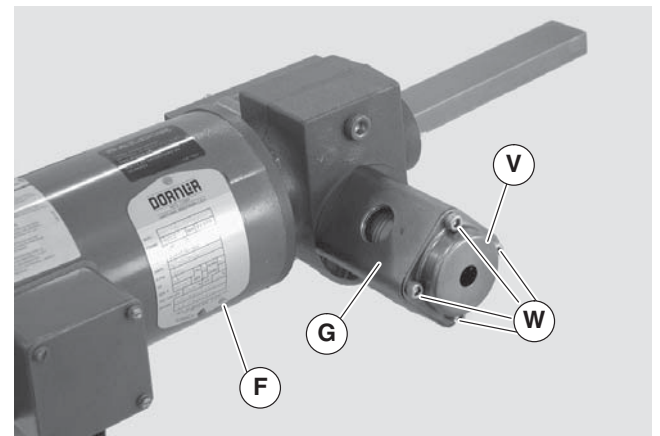

Figure 17
7. Attach shaft cover (Figure 17, item V) and guard tube (G) with screws (W). Tighten screws (W) to 50 in-lb (5.6 Nm).